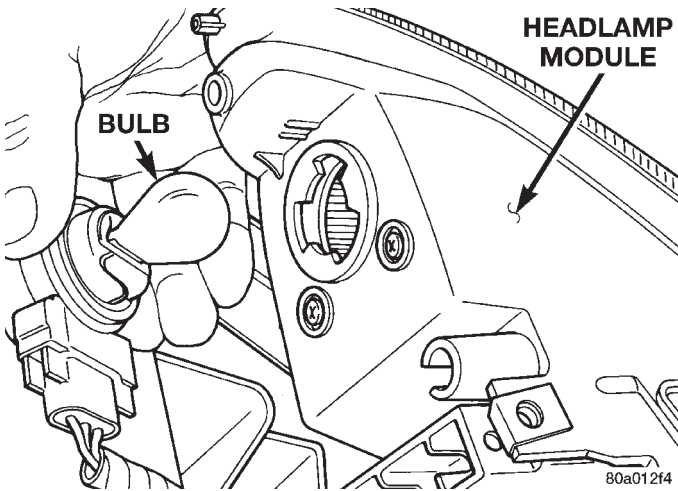

Fig. 2 Park and Turn Signal Lamp Bulb
- (2) Remove screws holding headlamp module to radiator closure panel.
- (3) Separate headlamp module from radiator closure panel.
- (4) Rotate socket counterclockwise one quarter turn.
- (5) Pull socket from back of lamp (Fig. 2).
- (6) Pull bulb from socket.
- (1) Push bulb into socket.
- (2) Position socket into back of lamp (Fig. 2).
- (3) Rotate socket clockwise one quarter turn.
- (4) Position headlamp module to radiator closure panel.
- (5) Install screws holding headlamp module to radiator closure panel.